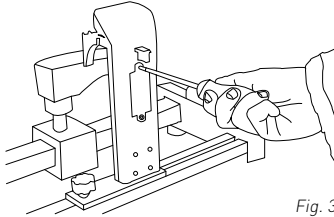

Fig. 3
2. Insert and connect the battery to the connector. To proceed, remove the small door with a screwdriver and make sure, after inserting the battery, you close it again by securing the screws. **(Fig. 3)**